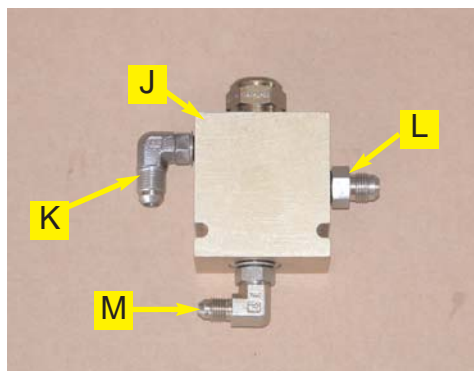

Figure 3a. Pre-assembled load sense valve.
- a. Pre-assemble the dynamic load sense valve (**J**) with the adapter fittings **K**, **L**, and **M** as shown. (Figure 3a.)